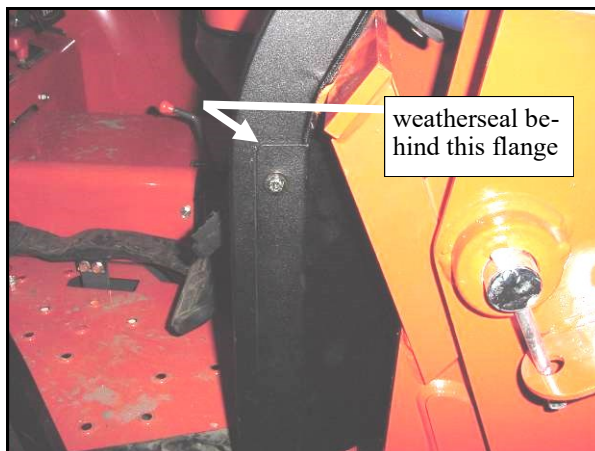

Fig. 8.1 (view from right side of tractor)
8.1 Per fig. 8.1, install the right front leg to the side of the right side frame using care to not damage the factory installed weatherseal inside the bent flanges where indicated on the photo. Use the following hardware: two 5/16 x 3/4" long hex flange bolts and two plastic washers. Do not tighten bolts.